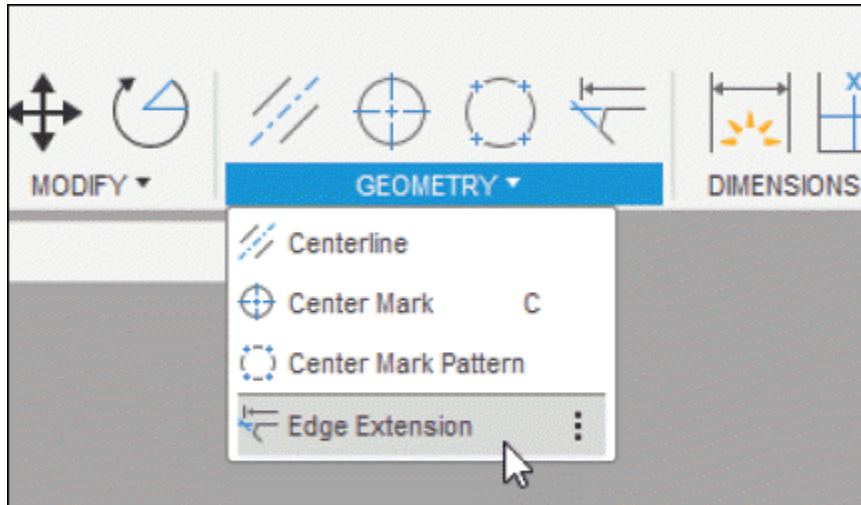

Figure-47. Edge Extension tool
- Click on the **Edge Extension** tool from **GEOMETRY** panel; refer to Figure-47. The tool will be activated.